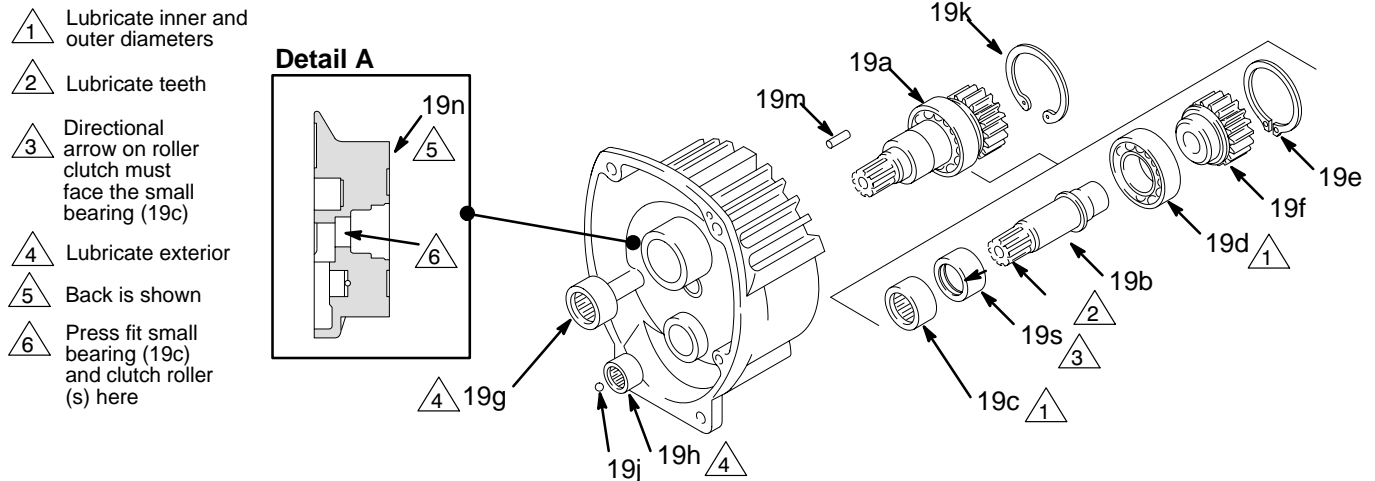

Fig. 21
**NOTE:** Refer to Fig. 21 except where noted.
5. Apply lubricant to the parts as shown in Fig. 21.
- Small bearing (19c) and then the roller clutch (19s), with the directional arrow facing the small bearing, into the rear of the housing (19n). See Detail A in Fig. 21.